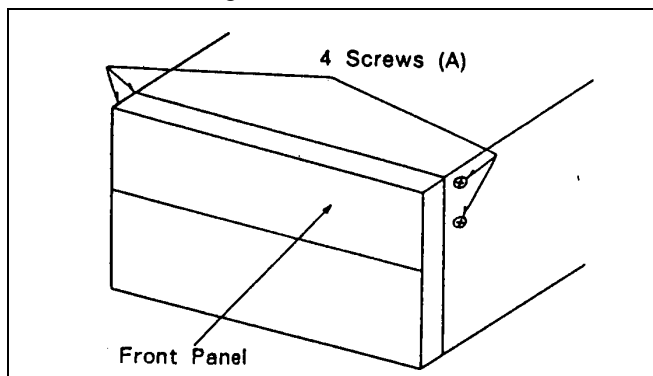

Figure 7-17-1 Front Panel Removal
1. Unscrew 4 screws (A) and pull Front Panel forward as shown in Figure 7-17-1.